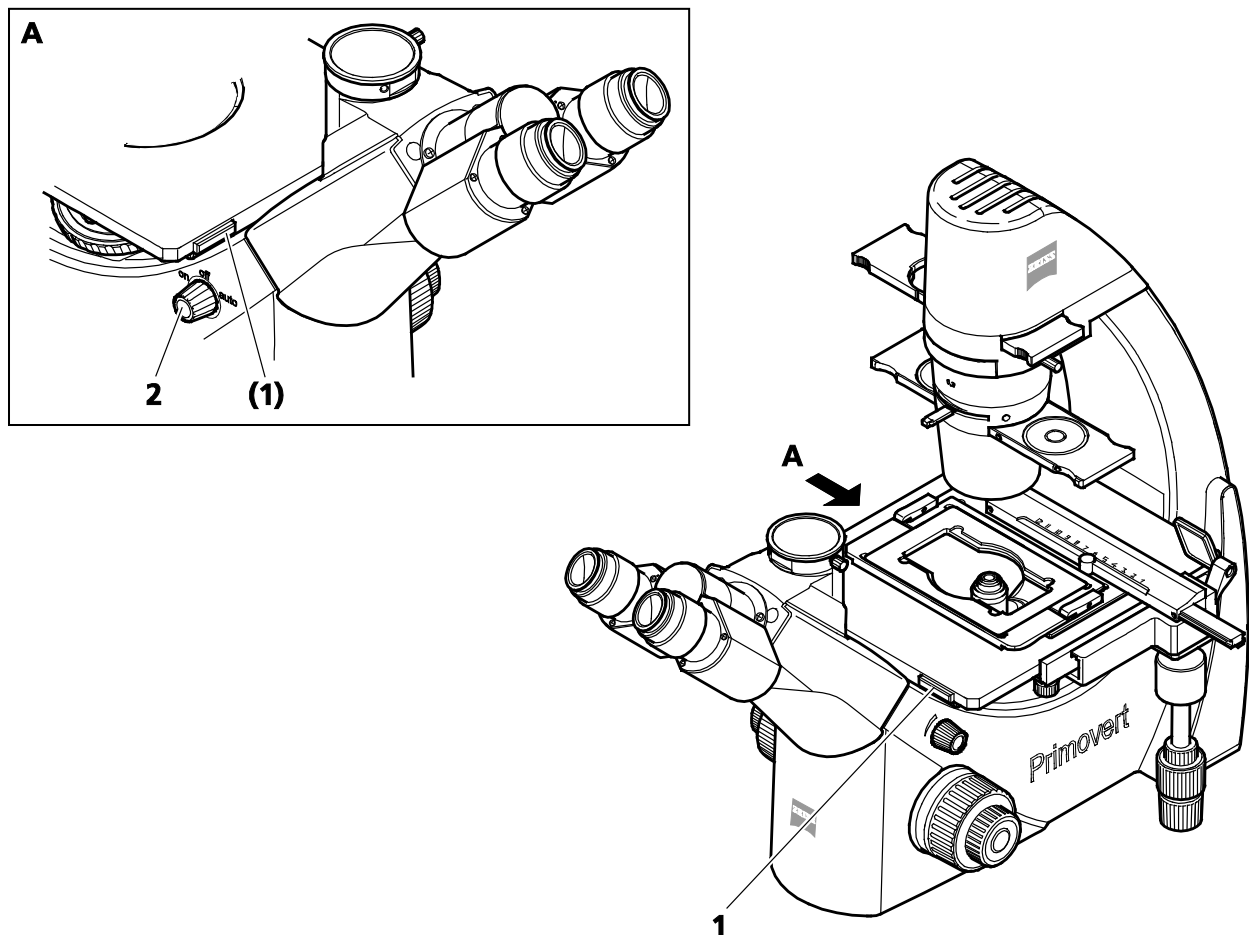

Fig. 28 Switching the microscope on or off
- Switch on the microscope using the rotary knob (Fig. 28/2) (**ON** or **AUTO** position).
The two ON/OFF switches (Fig. 28/1) on the specimen stage for quickly switching the transmitted-light illuminator on and off are inactive. The illuminator remains continuously switched on.
The ON/OFF switches (Fig. 28/1) for quickly switching the transmitted-light illuminator on and off are active. So, the illuminator can be switched off and on again quickly. After an operation time of 15 minutes, the illuminator switches off automatically and goes to standby mode. Upon actuating one of the ON/OFF switches, the illuminator switches on again. When actuating the switch once more during operation, the 15-minute period will start again from the beginning.
- After finishing work, switch off the microscope with the rotary knob (Fig. 28/2) (**OFF** position).